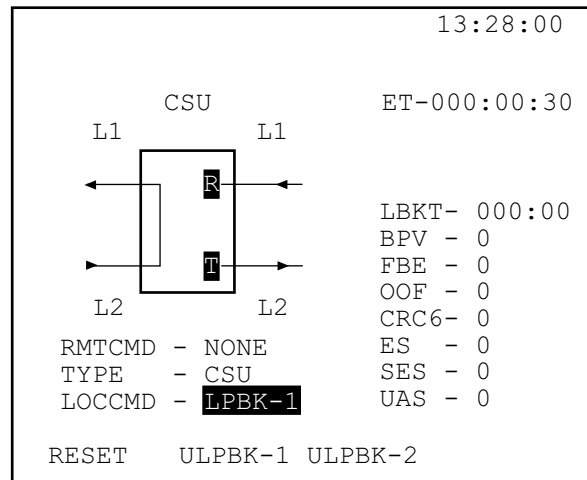

Figure 168 CSU/NI Emulation, T1DUAL
2. Plug the cords into the SunSet T10 and circuit under test. Confirm that signal coming from the network is connected to the Line 1 jacks. The SunSet T10 will respond to loopback codes from the network and the CSU/NI Emulation screen will appear as shown in Figure 168.